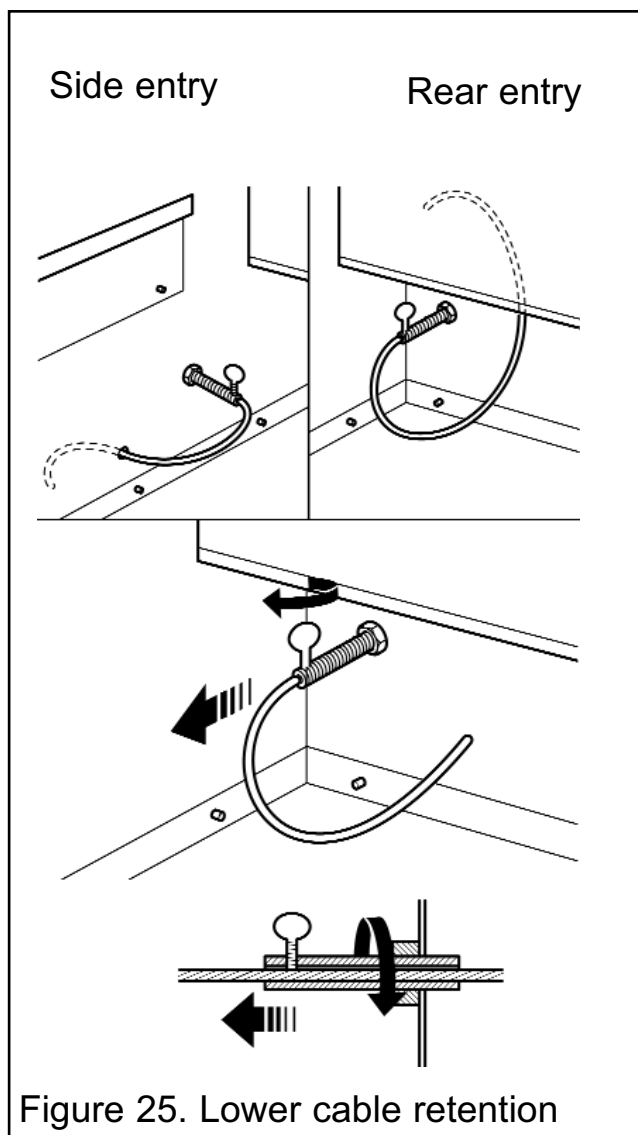

Figure 25. Lower cable retention
adjuster will pass into the hole. Tighten the screws in the retainers so that they clamp the cables in position. Apply tension to the cables by turning the hexagonal adjusters by hand (See figure 25).
14. Feed the free length of the cables into the gap between the inner and outer back panels so that they are available to allow easy removal and refitting of the appliance during subsequent service calls. **Do not cut off the free lengths of cable.** On precast flue installations feed the cables into the small holes at the base of the side panels (See figure 25)